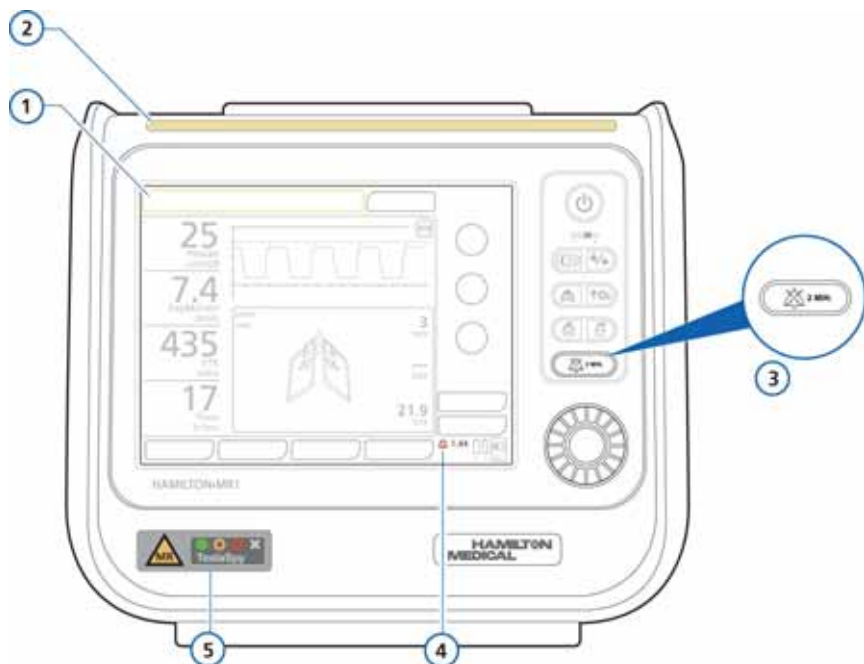
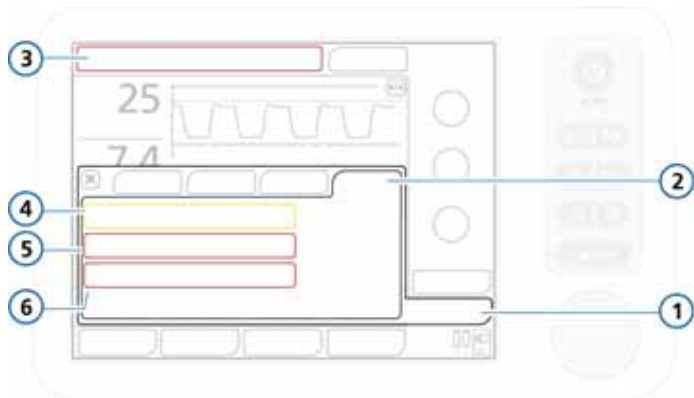

Figure 9-1. Visual alarm indications
Figure 9-4. Alarm buffer with active alarms
Table 9-1 shows the audio and visual characteristics of these types of alarm and tells you how to respond. Figure 9-1 shows the ventilator's visual alarm indications. You can review active alarms in the active alarm buffer (Figure 9-4). Information about the alarm is also stored in an event log (Section 9.4).
Four indicators on the front of the ventilator (Figure 9-1) show the status of the surrounding magnetic field and of the TeslaSpy navigator itself.
- If there are currently active alarms, the alarm buffer shows the most recent active alarms (Figure 9-4). The associated alarm messages also alternate in the message bar. Active alarms are in boxes with rounded corners.